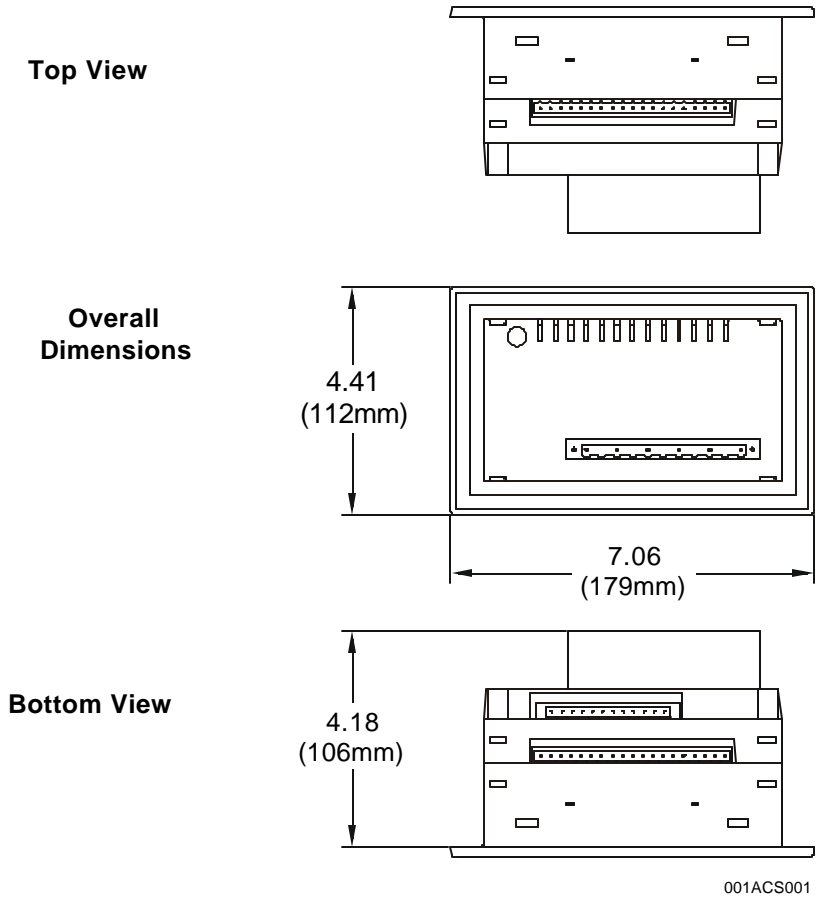

Figure 2.1 – ACS Overall Dimensions and Top / Bottom View
2. Cut the host panel. (See Figures 2.1 – 2.6.)